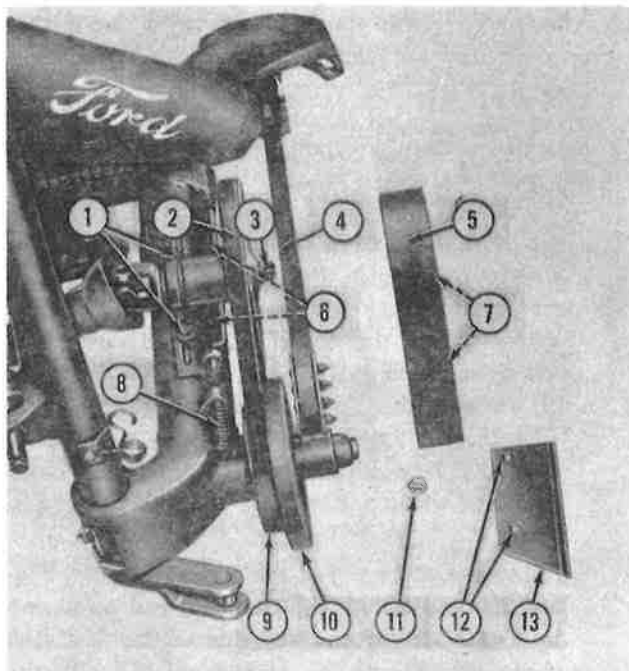
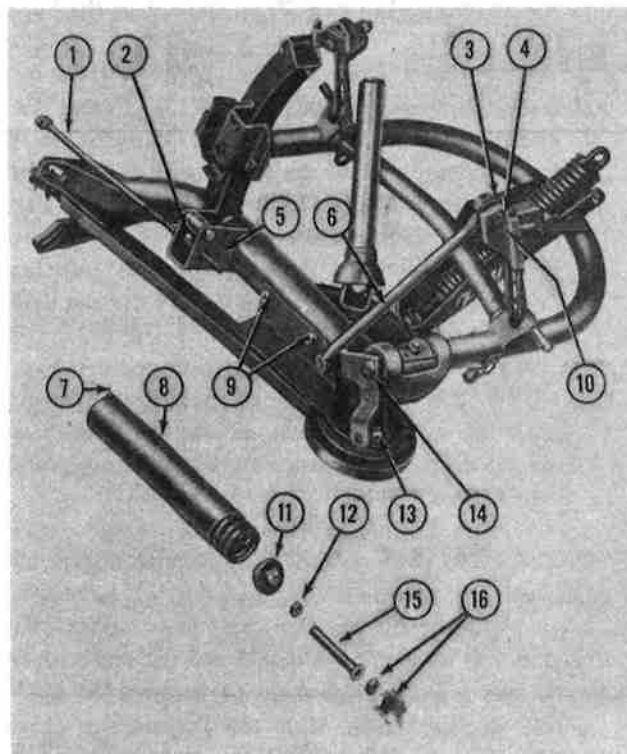

Figure 18
Figure 19
large flat washer on each of the 7/16" x 5" bolts (7) and place the bolts (1), Figure 18, through the holes on either side of the drive shaft housing and through the lower frame.
- c. Slip the V-belt (9), Figure 18, over the free end of the Pitman arm (4) and position it on the flywheel (10) as shown. Place the other end of the V-belt on the drive sheave (2) and slip the sheave on the splined drive shaft (3). Attach the flat washer and slotted nut, adjust the bearing preload as described below; then secure the slotted nut with the 1/8" x 1 1/4" cotter pin as shown.
NOTE: The Pitman and flywheel shaft assembly (10), Figure 18, and drive shaft assembly (3) are equipped with tapered roller bearings and should not be overtightened. Rotate the shaft while tightening the nut until a slight drag is felt. Loosen the nut until a slot in the nut aligns with the first of two holes in the shaft, but not more than 1/2 turn. Tap the shaft end to free the bearing. The end play should be - .001" to - .004" with this adjustment.
- d. Position the upper belt guard (5), Figure 18, over the drive sheave (2) so that the holes
(7) in the upper belt guard align with the holes (6) in the frame. Install two 3/8" x 1" hex head bolts, lock washers, flat washers, and nuts through the holes (7) and the holes (6) attaching the upper belt shield to the frame.
- e. Place the lower belt guard (13), Figure 18, in the position shown in Figure 19, and fasten loosely with two 7/16" nuts (9), Figure 19. These nuts also secure the drive housing to the frame.
- f. Turn the belt adjusting bolt (8), Figure 18, against the bearing housing until there is 1/4" slack in the V-belt, midway between the pulleys. Lock the adjusting bolt (8) in this position with the nut (11). Tighten the nuts (9), Figure 19, holding the lower belt guard and drive shaft housing secure.
- a. Hold the Pitman arm close to the lower frame to avoid breakage, and roll the assembly to the rear as shown in Figure 19.
- b. Insert the rod (1), Figure 19, through the large holes in the lower frame roller bracket (2) and slide the balance spring (8) with cover, on the rod so the spring end (7) is locked in the hole (5).
- c. Start the spring adjusting nut (11), Figure 19, and the lock nut (12) on the rod (1) sufficiently to permit the end of the rod to slip through the hole in the trunnion (13) on the bellcrank (14). Place the sleeve (15) on the end of the rod so it will protect the threads from the trunnion (13) and secure the extreme end of the rod with two lock nuts (16).
11. Position the push rod (6) as shown in Figure 19, between the bellcrank (14) and the left-hand stabilizer guide (10). Be sure the rubber seal (3) is on the bolt at each end of the rod (6) and secure each with a 1/2" slotted nut (4) and a 1/8" x 1" cotter pin as shown. Hold the Pitman arm close to the lower frame and roll the mower frame assembly in an upright position (see Figure 13) to facilitate attaching it to the tractor.